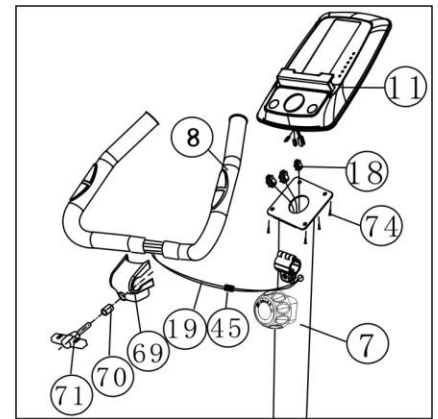

Figure 4
b. Connect the Computer wire (18) and the Pulse wires (19), insert the surplus wire into the Handlebar (7). Take Crosshead bolt M5×10 (74) from the computer (11), and use it fix the computer (11) to the top of handlebar support (7). (Refer figure 4)